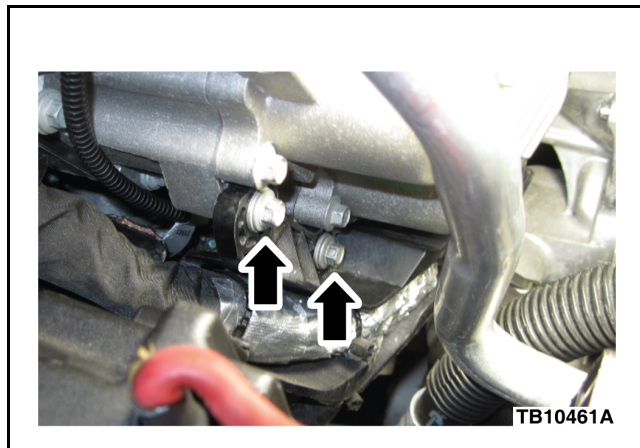

Figure 1 - Article 13-10-7
1. Does the wastegate control valve emit a buzzing noise while the engine is running and/or for up to thirty (30) seconds after engine is shut off?
- c. Remove three wire harness retainers and position aside engine wire harness. (Figures 1 and 2)